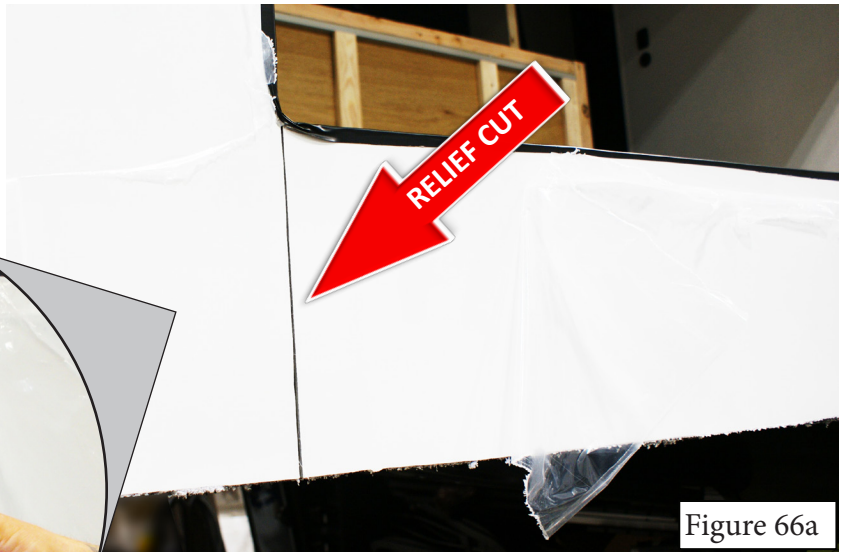

Figure 66a
2. Using a hand held mini-saw, make a vertical relief cut at the front lower corner of the slide-out opening. Cut 3/16" deep to ensure ONLY the skin and backer are cut (full material depth is approximately 0.250" or 6.35mm) DO NOT cut into the metal sidewall structure under the skin. (Figure 66a and 66b).